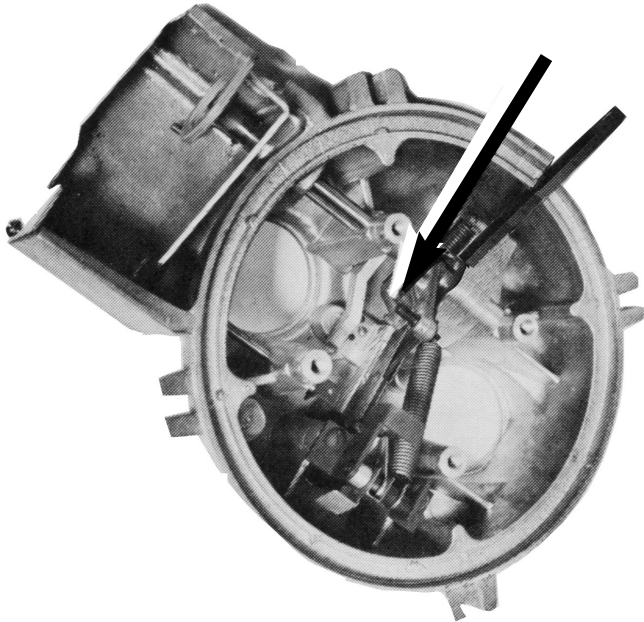

Figure 1.
11. Verify the plunger lever is lodged behind the slide rod (Figure 1).
14. Verify the plunger lever has remained lodged behind the slide rod (Figure 1).